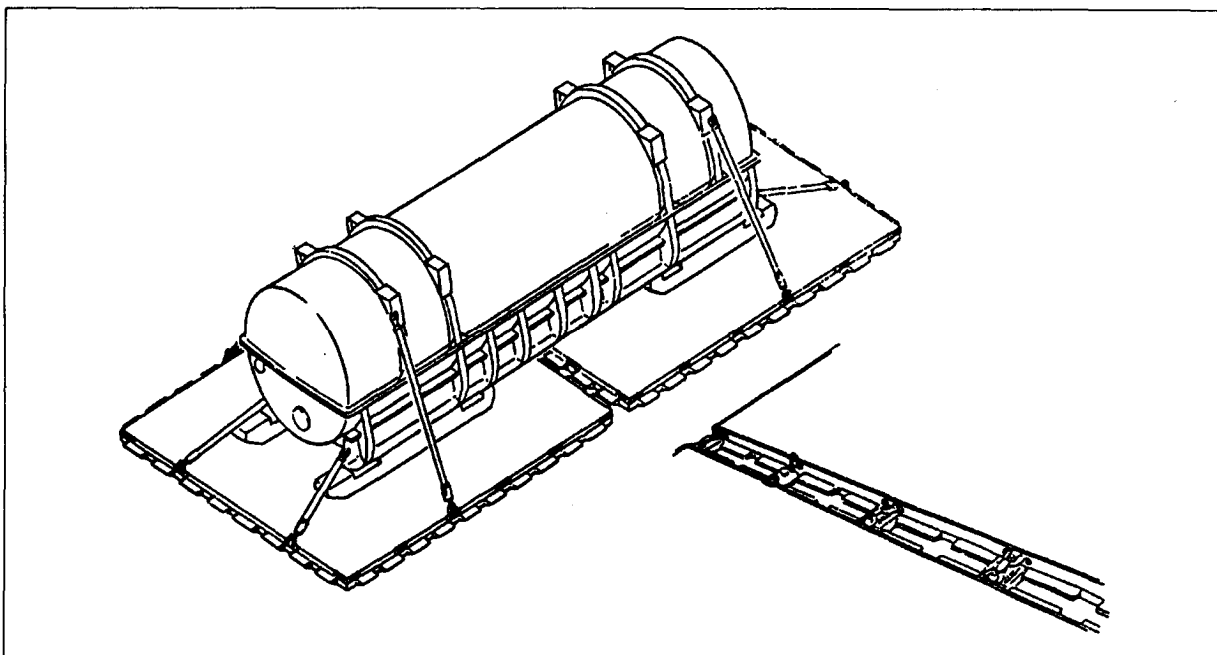

FIGURE 4-7. Married 463L Pallet Assignment.
a. In the movement of cargo, you often encounter odd shapes and sizes of cargo that require movement by air. As previously described, the 463L pallet is 108 inches wide by 88 inches long with a maximum cargo weight capacity of 10,000 pounds. When there is a requirement to ship a piece or pieces of cargo that exceed these dimensions, join two or more pallets together (Figure 4-7). This is referred to as the marrying of pallets (also referred to as double or two pallet trains).